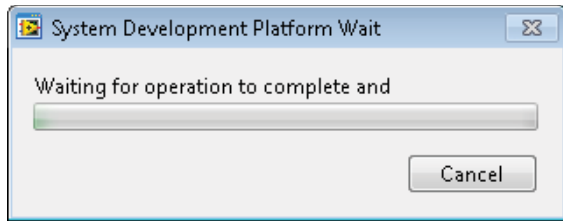

Figure 17. AD4020 Reference Design Software Connects to SDP-H1 Board
3. After **Rescan** is clicked, the AD4020 reference design software connects to the board and displays the message shown in Figure 17.